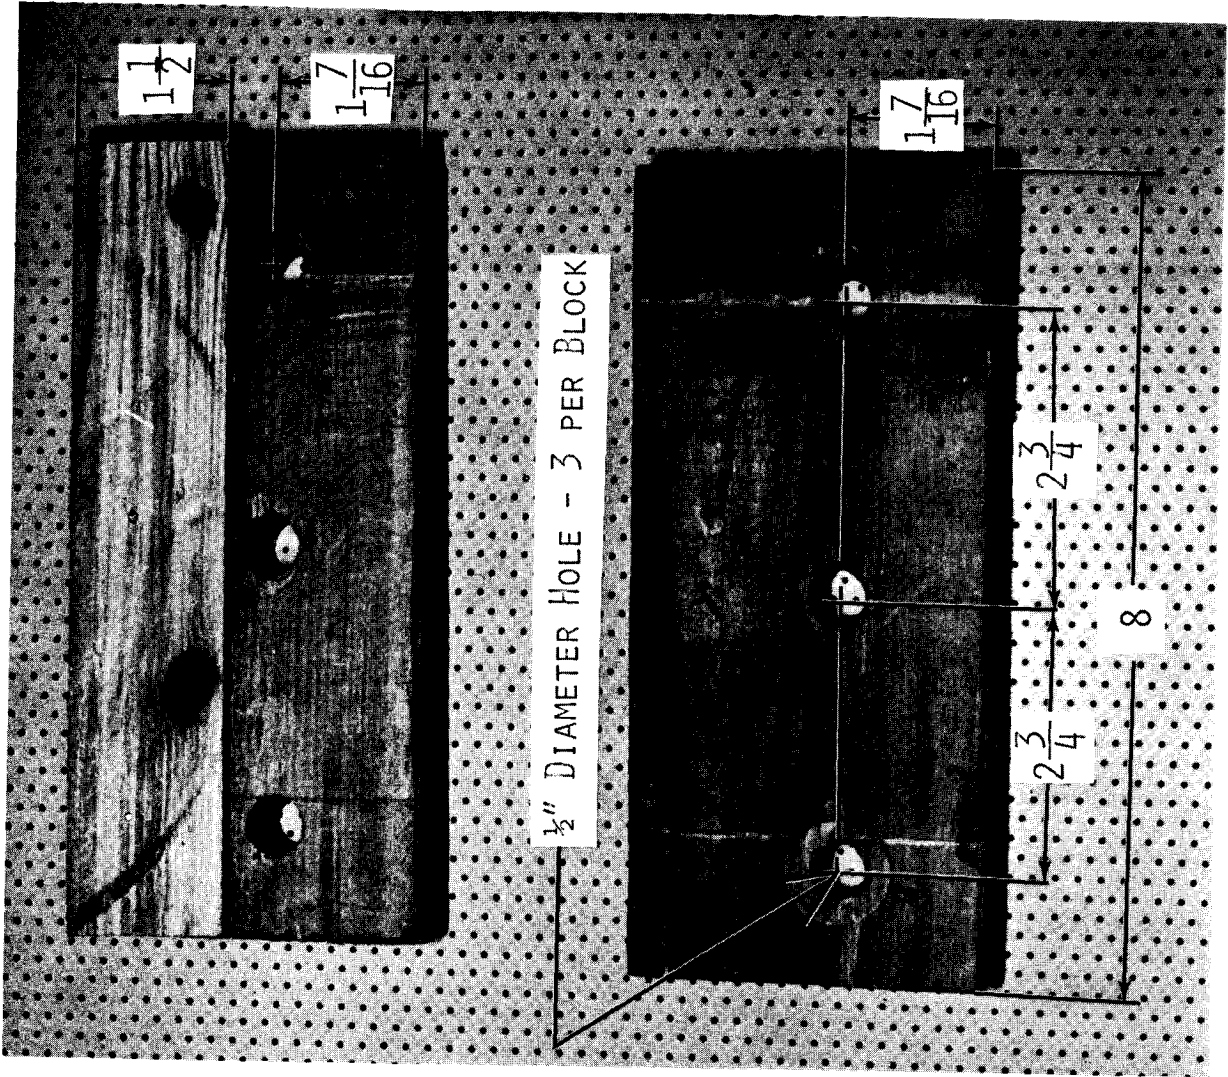

FIGURE 2
Drill twelve (12) 1/2 inch holes as shown in Figure 2. Tack wood strips as shown and assemble clamps.